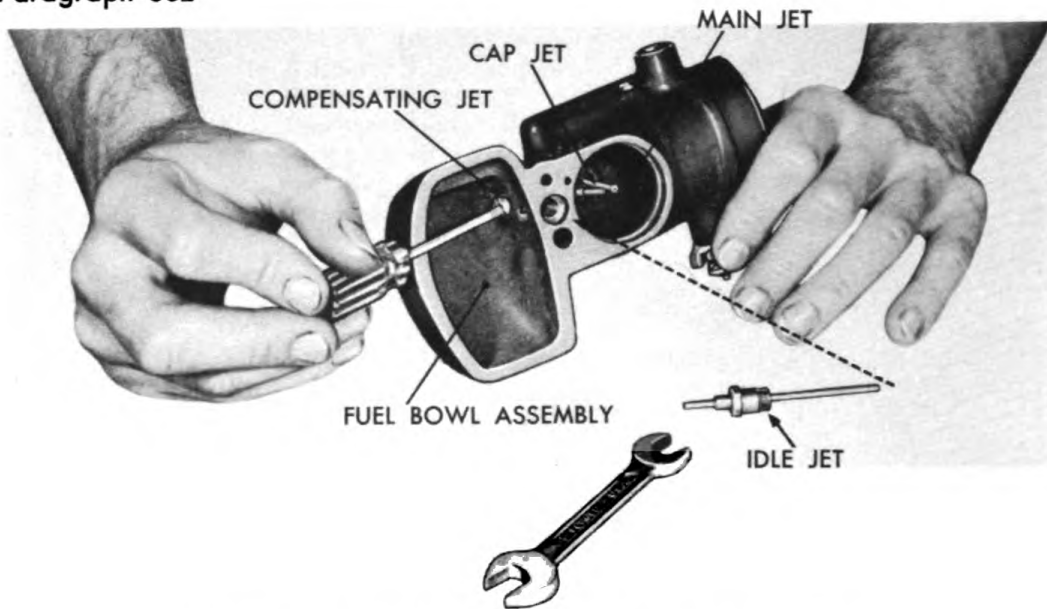

Figure 288. Removing Carburetor Compensating Jet.
- f. Remove Compensator jet from bowl, using screw driver. See figure 288.